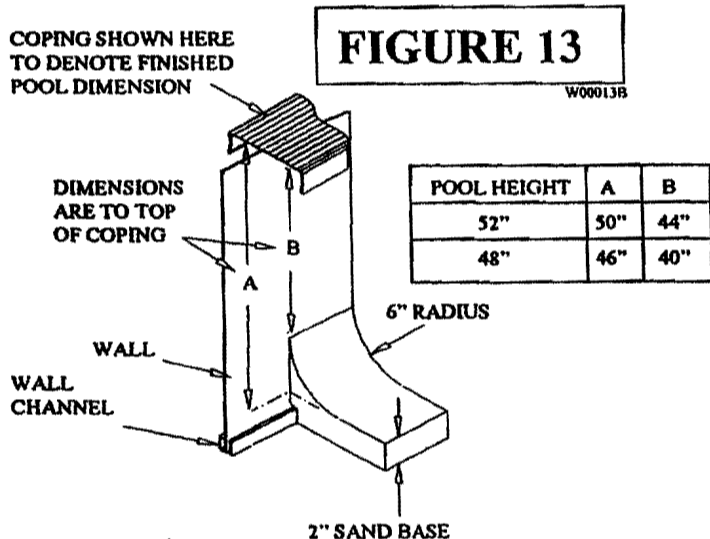

FIGURE 13
Step 11: See Figure 13. Spread the sand across the entire bottom of the pool. Moisten and tamp the sand to provide a solid base. The sand base must be 2" deep after tamping. The sand should be moistened and troweled to a smooth finish. Create a 6" radius cove along the wall as shown. This cove must also be tamped solid to prevent shifting. Clean the inside of the wall prior to installing liner.